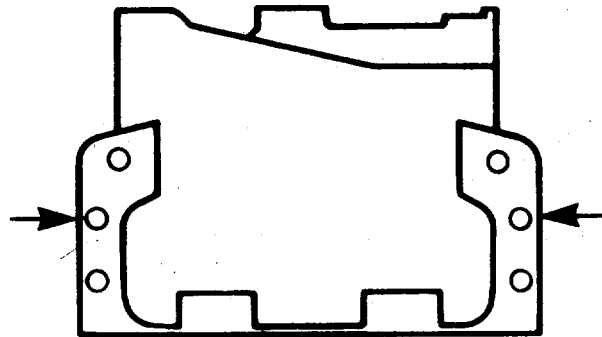

FIGURE 2-60. Flywheel Housing Buttresses.
- a. Install sediment strainer element (6) with threaded tapping screws (5).
- b. Position the oil pan and new gasket (1). Use your hand to install the captive washer capscrews (23, 24).
- (1) Install and tighten the middle capscrew in each of the two buttresses on the flywheel housing (FIGURE 2-60).